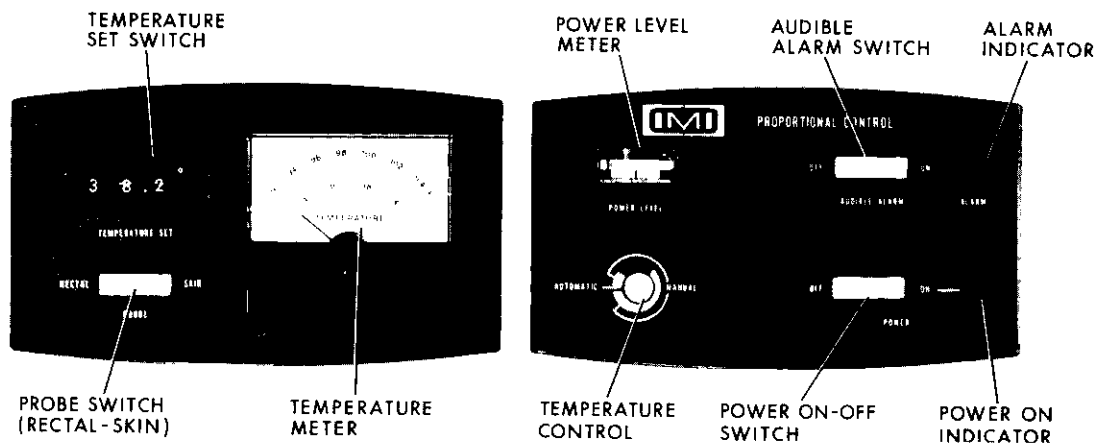
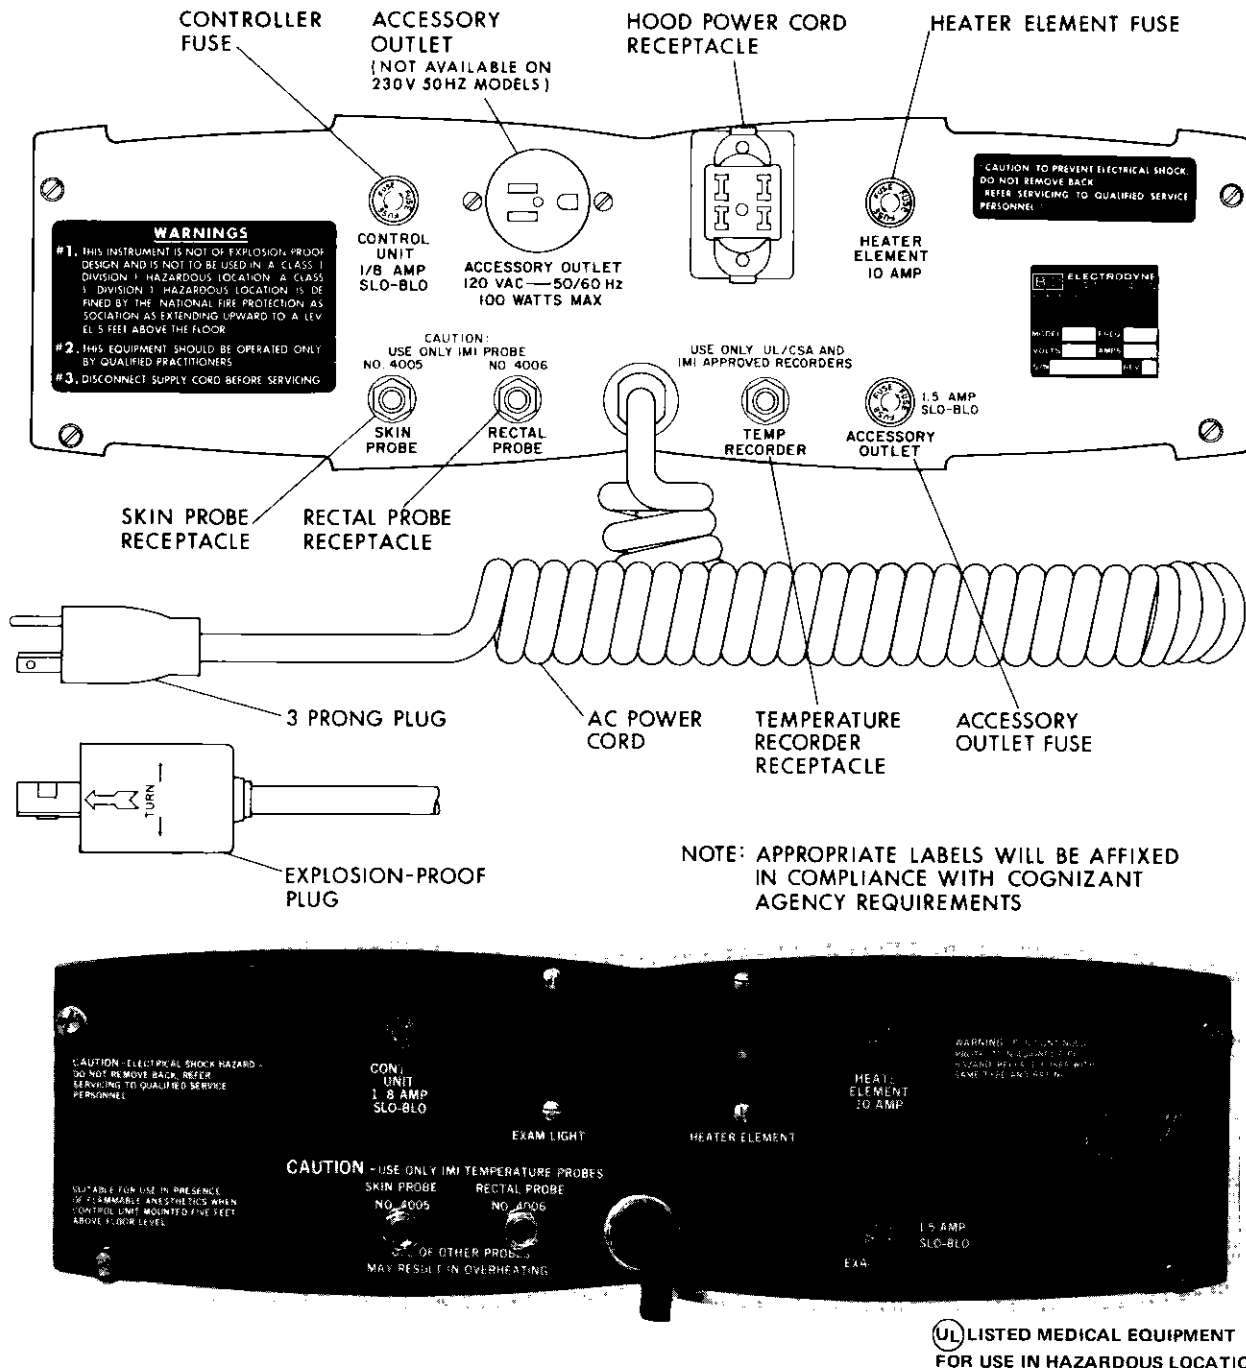

Figure 2. Proportional Controller, Model 4004
Figure 6. Rear Panel Connectors and Fuses
- (1) Proportional Controller, Model 4004 (figure 2)
The Proportional Controller, Model 4004 (figure 2) is an electronic control circuit that automatically maintains a preselected temperature by regulating heater output in response to patient's temperature. A skin or rectal probe is used in conjunction with a PROBE switch set in the SKIN or RECTAL position to sense a patient's temperature and provide continuous monitoring. A digital switch on the Proportional Controller is used for preselecting the desired skin or rectal temperature while the actual patient temperature is displayed on a panel meter. Front panel displays also indicate a-c power ON and heater POWER LEVEL and indicate when the AUDIBLE ALARM is enabled. The audible and visible alarms indicate temperatures over 38.3°C and under 34.0°C. The Proportional Controller also has a capability for MANUAL control of patient temperature whenever it is needed.
The front panel controls and indicators are shown in figures 2 and 3. The rear panel components are shown in figure 6.
The following items are located on the rear panel of the Controller (see figure 6).